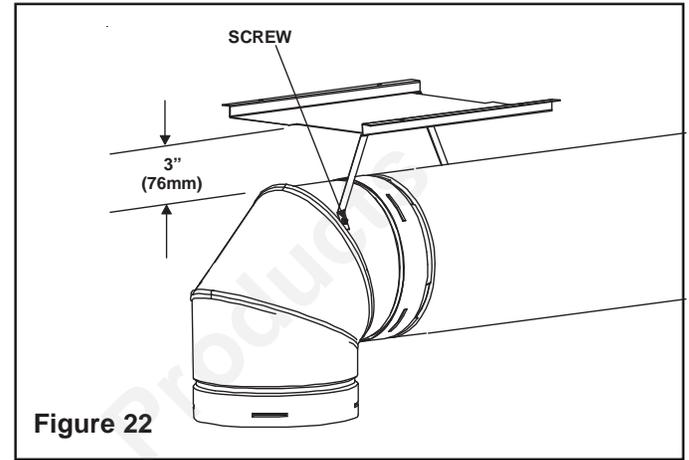

Figure 22
- If the combustible materials are not in place at the time of install the elbow heat shield may be screwed to the exhaust pipe (see Figure 22). Cut the tabs as shown and bend down. Using the screws found in the manual bag secure the heat shield to the pipe maintaining 3" to 4" between the pipe and shield.